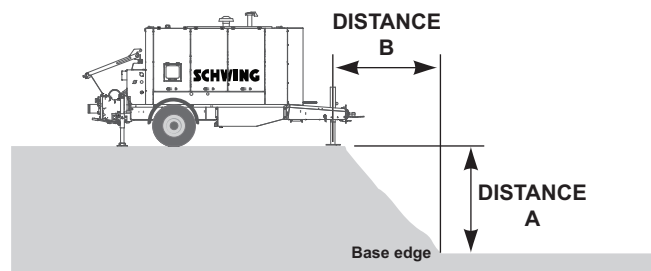

Figure 7
- Far enough from excavations and other holes that the outrigger legs can maintain a one-to-one ratio back from the base edge (Figure 7) or as recommended by the machine manufacturer.